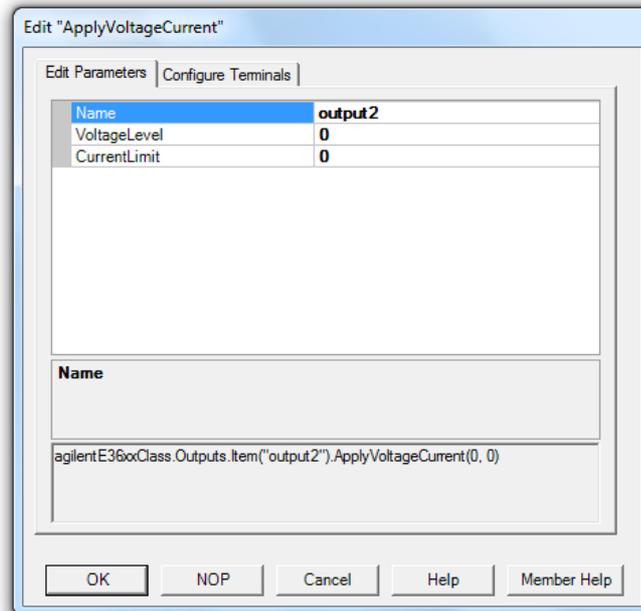

Fig. 16: Editing parameters of IVI driver object for Agilent E3631A
11) In the opened window, under **Edit Parameters**, enter **output2** into **Name** field as shown in Fig. 16. Note that **output1**, **output2** and **output3** are the reserved names for 6 V, +25 V, -25 V outputs of the DC power supply, respectively.